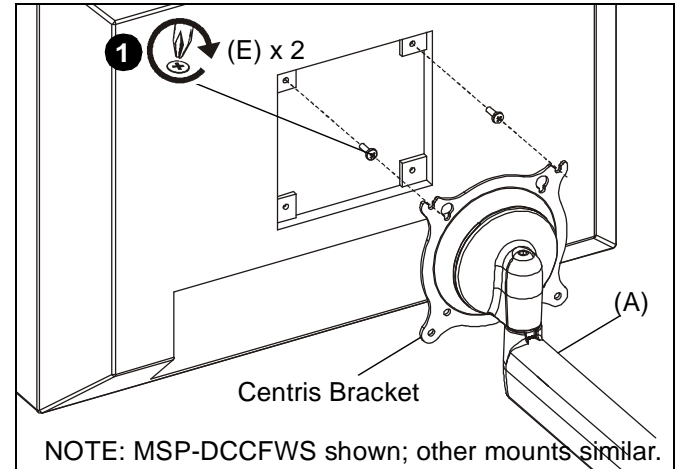

Figure 5
- Your display has a recessed mounting hole cavity, and the Centris bracket (identified in Figure 5) will not fit into that cavity,
1. Using Phillips screwdriver, carefully install two screws (E) into the *upper* mounting holes on the display (See Figure 5). Thread screws completely into display, then back out 3-1/2 turns.
2. Pick up and align display so that screws (E) (installed in the previous step) fit into *upper* 100mm x 100mm mounting cutouts, or *upper* 75mm x 75mm mounting holes (as applicable) on Centris bracket. (See Figure 5) Lower display firmly into place.